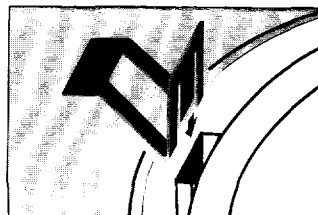

Figure 3
1. Install 3 mounting springs to each fixtures as shown. (see figure 3)